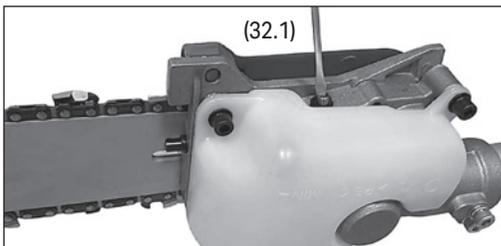

Fig.33
1. Turn and remove the oil filler cap (31) from the tank (32).
11.4 Automatic Lubrication Check (Fig.33)